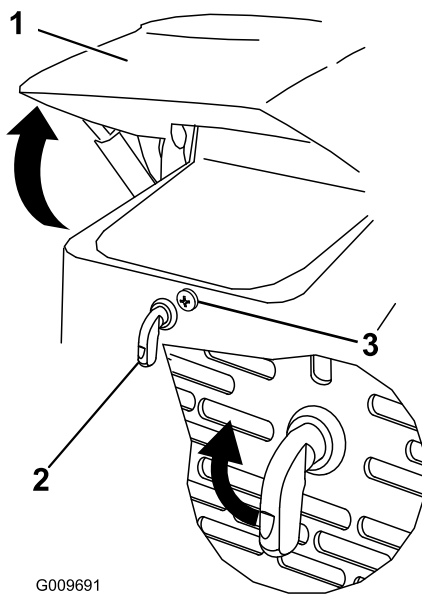

Figure 27
1. Loosen the hood locking screw (Figure 27)
3. Tighten the hood locking screw to secure the latch (Figure 27).
2. Turn the hood latch clockwise (Figure 27).
3. Swing the hood up (Figure 27).